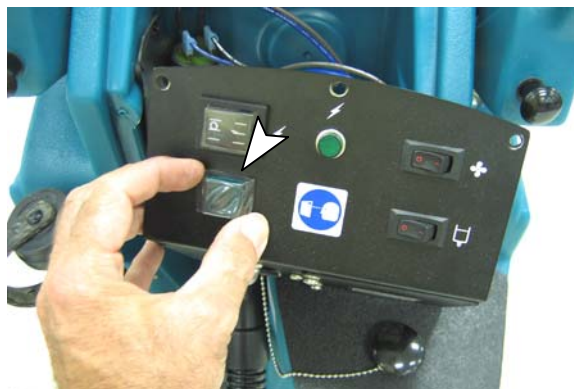

Fig. 2
3. Disconnect wires #18 brown and #22 black from the the brush release switch. Remove and discard the switch (Fig. 2).